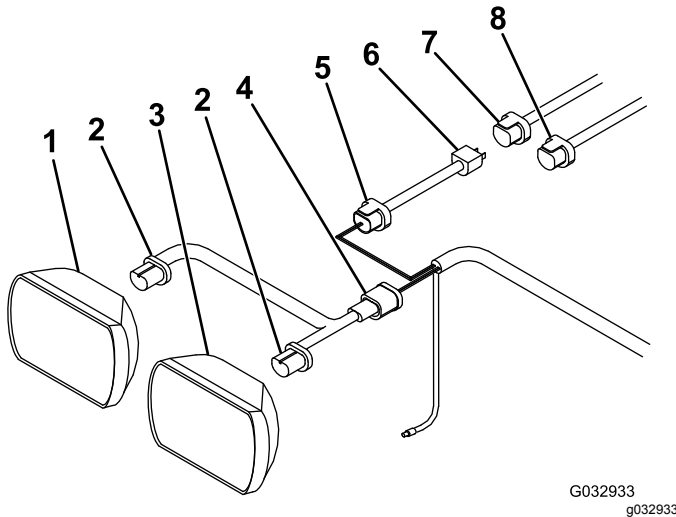

Figure 25
1. Disconnect the wire harness plugs from the back of the left vehicle headlights (Figure 25).
2. Connect the 2 ends of the headlight adapter to the back of the left vehicle headlights (Figure 25).
3. Connect the black plug from the headlight adapter to the long wire harness (Figure 25).
4. Connect the blue plug from the headlight adapter to the blue plug on the long wire harness (Figure 25).
5. Connect the free end of the headlight adapter to the previously disconnected low-beam plug on the vehicle wire harness (Figure 25).
6. Grease, tuck, and secure the previously disconnected high-beam plug on the vehicle wire harness (Figure 25).